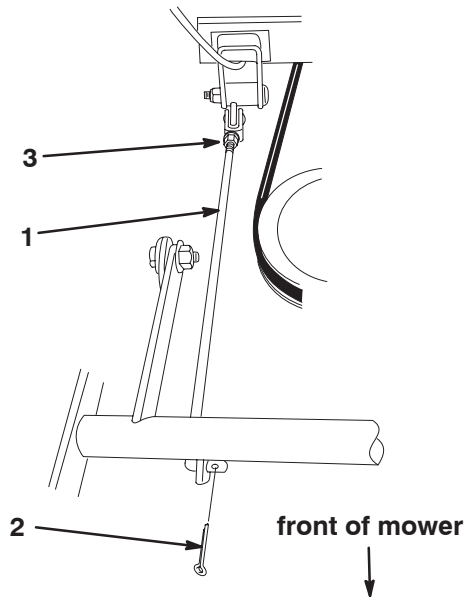

Figure 31
7. Remove the cotter pin at the front of the adjusting rod (Fig. 31).
8. Loosen the nut at the rear of the adjusting rod (Fig. 31).